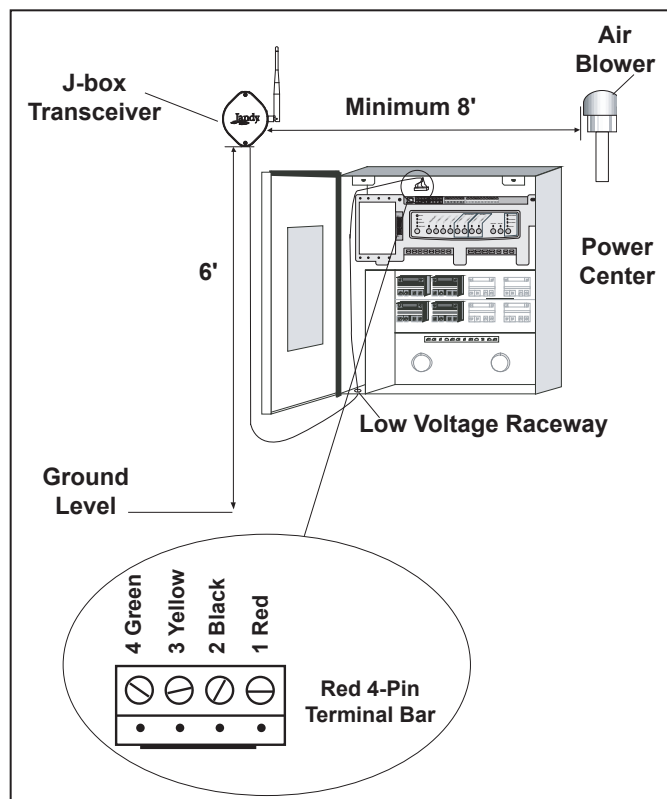

Figure 33. Outdoor Transceiver J-box Installation for Wireless OneTouch™ Control Panel
2. Mount the outdoor transceiver J-box at least 6' above the ground and at least 8' from an air blower (see Figure 33).